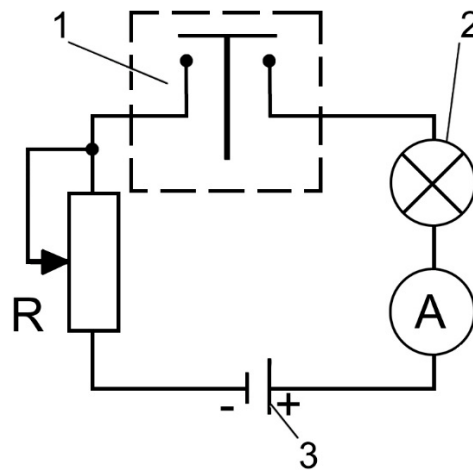

Fig. 7.44. Sensor contact closure check circuit: 1 – coolant level sensor; 2 – light; 3 – power supply; A – ammeter; R – resistor
- to test the sensor directly, connect the sensor to the electrical circuit, as shown in Fig. 7.44, setting the current to max. 1A.